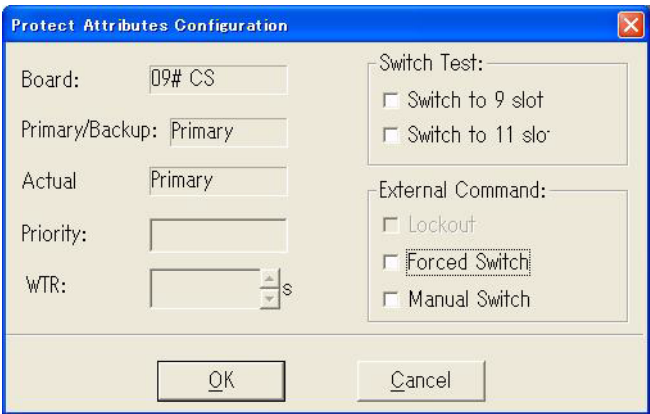
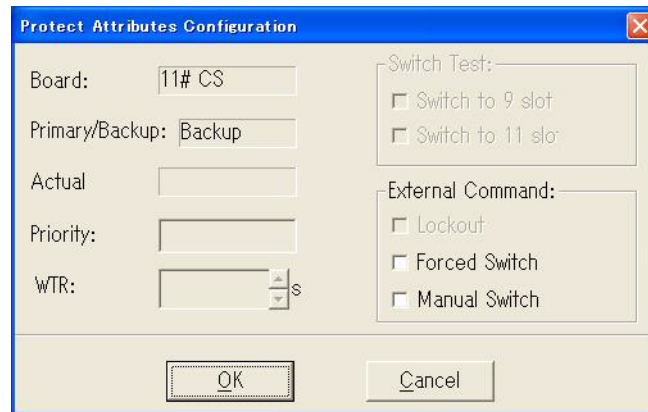

Fig. 4-4-16 The Protect Attributes Configuration of 9# CS
Fig. 4-4-17 The Protect Attributes Configuration of 11# CS
*Note: According to the **Fig. 4-4-16** and **Fig. 4-4-17**, the Switch Test function of the 9# CS card can be set, but this function of the 11# CS card cannot be set now.*